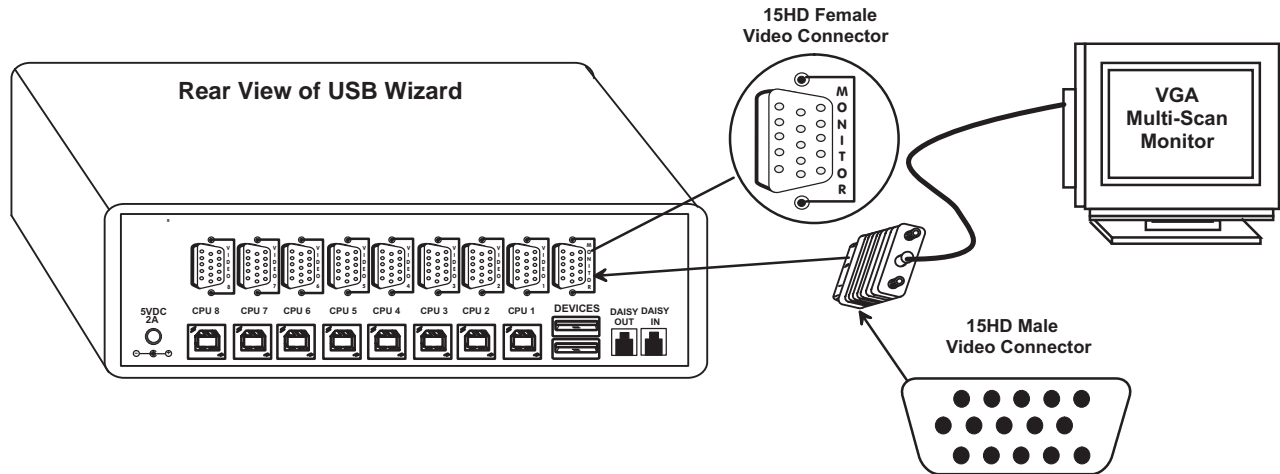

Figure 1- Connect a VGA multi-scan monitor
2. Connect the cable from a VGA multi-scan monitor to the 15HD connector labeled "MONITOR" on the USB Wizard switch. (See Fig. 1 below.)